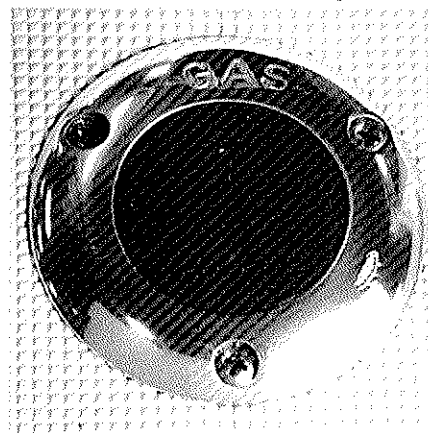

Figure 13
5. A special key to unlock the fuel cap is given to you. Insert the key in the slot in the fuel cap. The fuel cap is in the covering board on the port side of the boat. See figure 13.